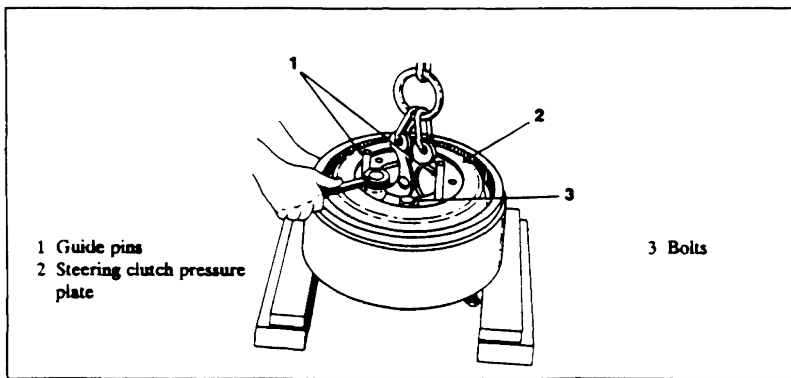

FIGURE 28. STEERING CLUTCH SPRINGS INSTALLATION
Step 8. Place the pressure plate over the clutch discs as shown in Figure 28. Use the tow guide pins to align the holes in the plate with the tapped holes in the retainer.
Step 3. Lift the steering clutch into position as shown in Figure 28.